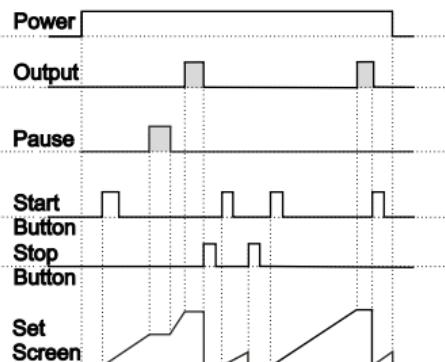

Figure 2.4
1.4.2 If Upcount `dEct` = 0 and `outF` is `0FF` the control diagram is shown in Figure 2.4